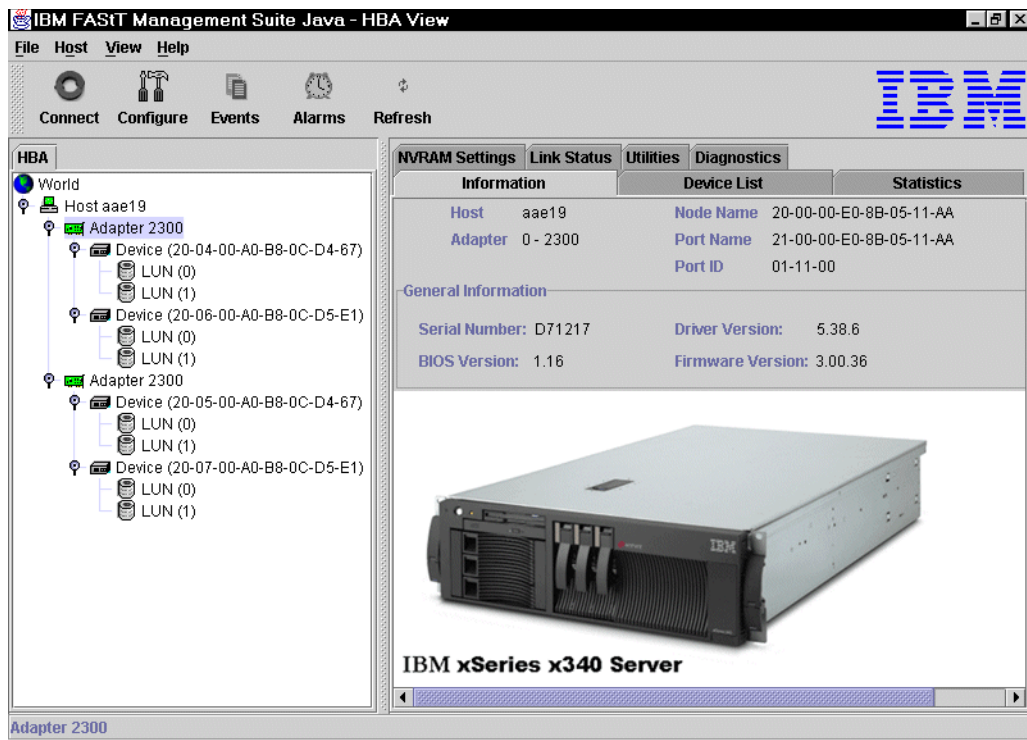

Figure 4-3 FASTT MSJ connected to a Linux Host
4. Highlight one of the adapters under the **HBA** tab, and click **Configure**, as shown in Figure 4-3.